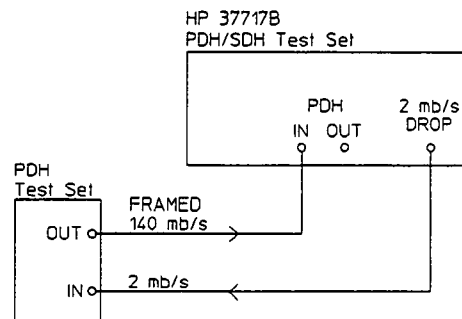

Figure 3-29. External 2mb/s Demux
3. Connect the equipment as shown in Figure 3-29.